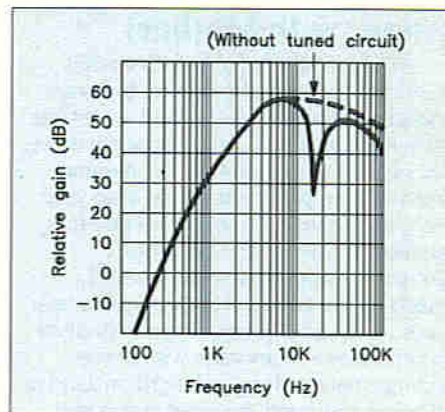
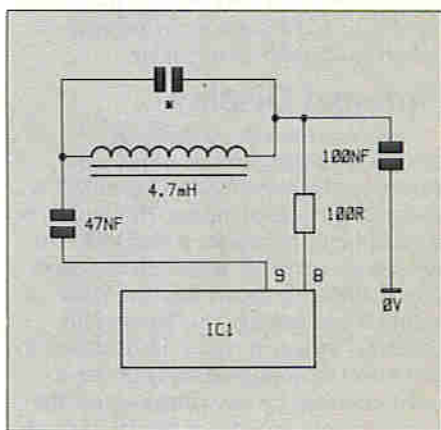

Figure 4. Notch filter response.
Figure 9. Reject filter.
For signals that have a high frequency content the control path sensitivity is increased at the rate of 12dB per octave and allows for the fact that the harmonic content of program material falls off rapidly with increasing frequency. The 47nF capacitor is chosen for the 12dB per octave slope characteristic here, and Figure 4 shows the control path gain peaking at 6kHz (dotted line). Signal energy content between 1kHz and 6kHz
Audio sources such as TV's and FM radios can present particular problems due to the presence of part of a 15kHz timebase signal (TV) or 19kHz pilot tone (stereo FM) which manages to find its way through into the main audio signal proper. These can be detected by the DNR control path and upset the noise threshold setting, consequently requiring adjustments to the noise level adjustment resistors. If a different audio source is then played through the system, or the timebase/pilot signals are no longer present, then source noise will become audible again, requiring further changes to be made to the noise level setting. However, a simple reject filter can be inserted between the control amplifier and detector input, as shown in Figure 9, and attenuation of these frequencies to -15dB is possible. Figure 4 shows the expected response of